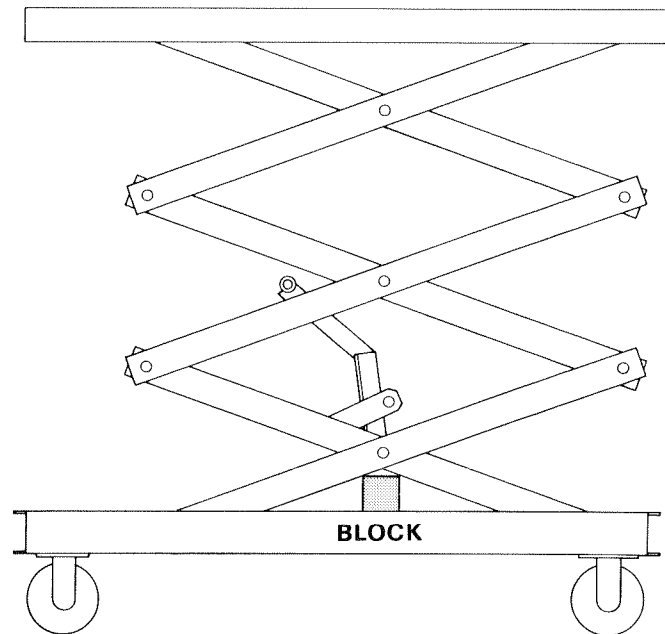

Figure 33. Blocking Up Lower Beam.
- a. Raise platform high enough to place a 4" x 4" x 36" long block of hardwood on top of machine base and under lower beam center pivot bar, Figure 33.